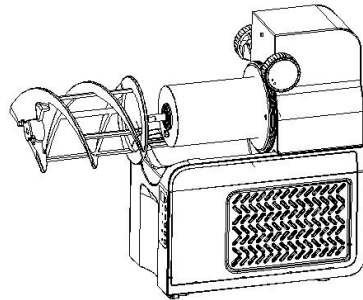

Figure 2
- 3 Install the auger by sliding it over the evaporator and rotating until it fits into place onto the pin. Figure 2